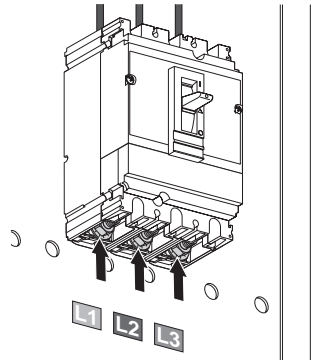

Fig. 9 Power connection
■ Connect phases L1, L2, L3 on the pads marked L1, L2, L3 (fig. 9 and 10).